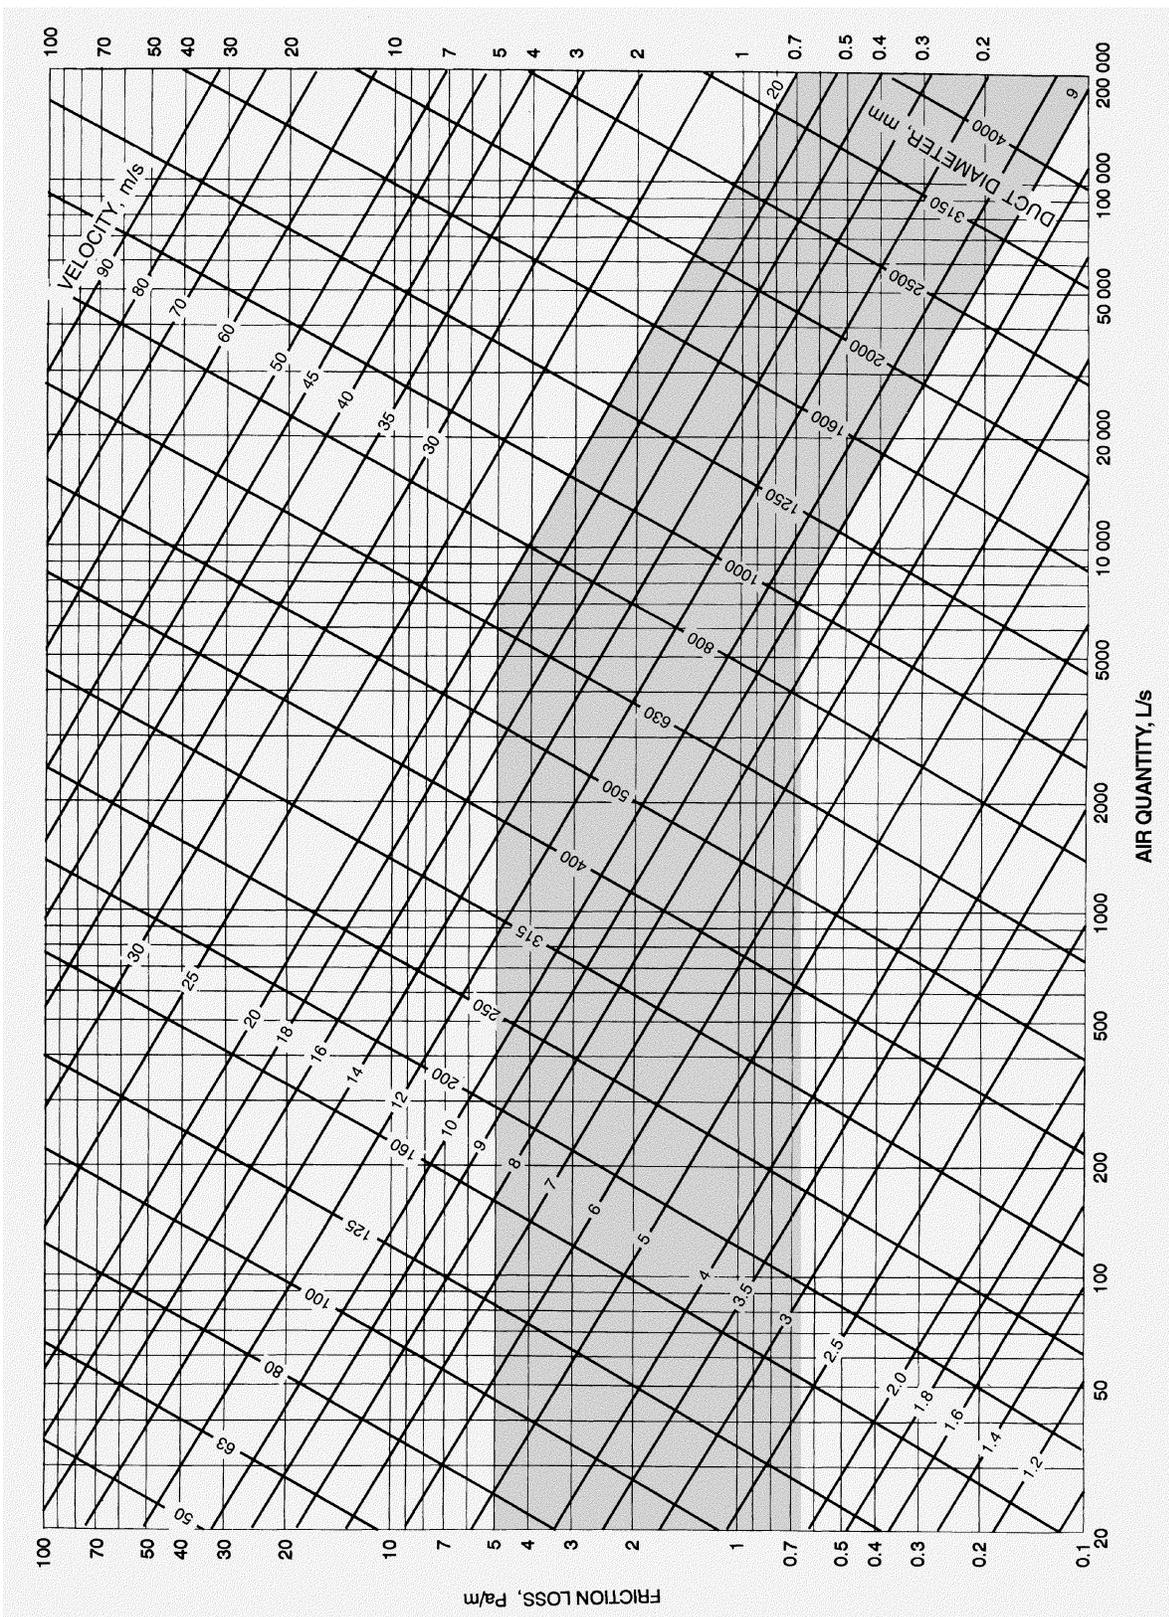

Fig. 9 Friction Chart for Round Duct ( $\rho = 1.20 \text{ kg/m}^3$  and  $\epsilon = 0.09 \text{ mm}$ )
p. 34.9, Fig. 9. Replace I-P value chart with SI value chart (page A.7).
p. 35.9, Fig. 9. Add “(12.7 mm)” after “1/2 in.” throughout.